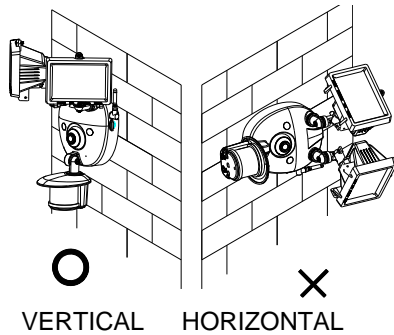

FIGURE 2a & 2b
- When mounting on the wall, it can be installed only vertically (FIGURE 2a), not horizontally (FIGURE 2b).